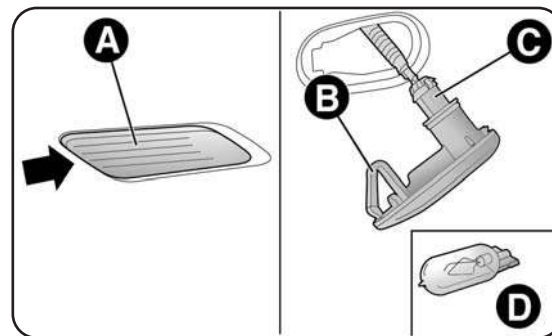

fig. 19
- work on the lens cover A - fig. 19 to compress internal clip B, then pull the unit outwards;